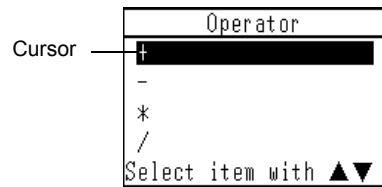

Fig. 13.6 [Operator] Selection screen
- 1 Press the **1** [Four Operations] key on the Processing Options screen (Fig. 13.1) to display the Operator Selection screen (Fig. 13.6).